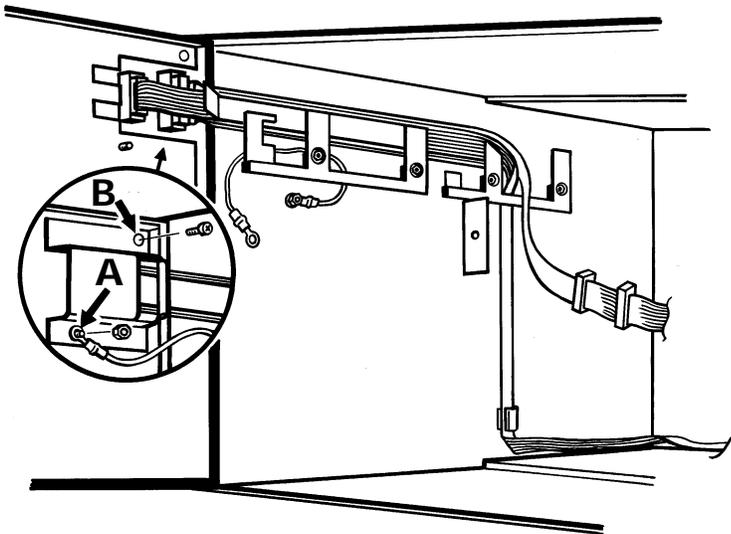

Figure c2.1a Earth lead and ribbon cable connector
- Remove the earth lead and the cover (A and B in figure c2.1a), retaining the fixings for later re-assembly.